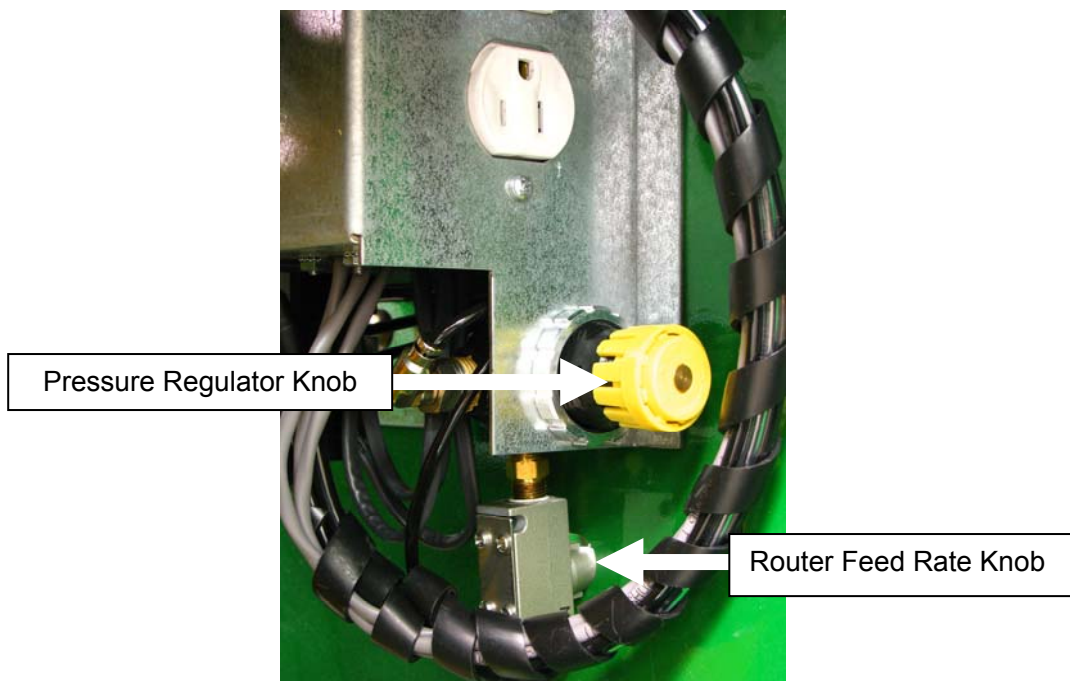

Fig 29
1. Open the rear door and locate the Pressure Regulator mounted to the Control Box. See Fig 29.